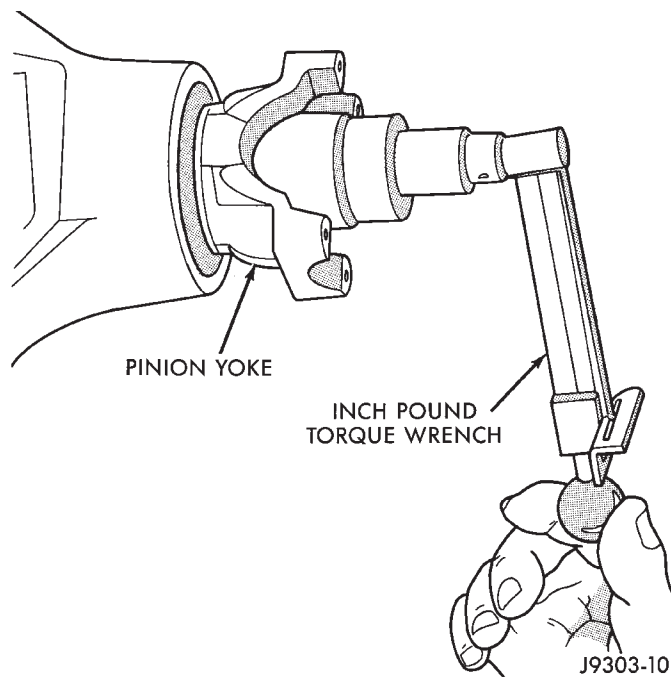

Fig. 53 Check Pinion Gear Rotating Torque
(15) Slowly tighten the nut in 6.8 N·m (5 ft. lbs.) increments until the rotating torque is achieved. Measure the rotating torque frequently to avoid over crushing the collapsible spacer (Fig. 53).
(16) Check bearing rotating torque with an inch pound torque wrench (Fig. 53). The torque necessary to rotate the pinion gear should be: